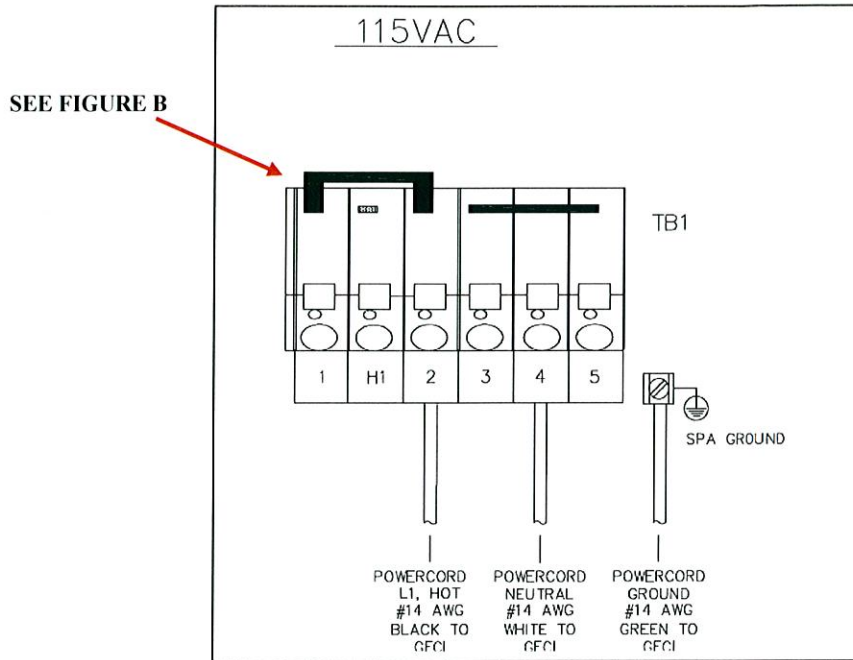

FIGURE 1.1
1. Locate the wiring diagrams provided with these instructions and select the one that corresponds to your spa model. **NOTE: For Domestic 60Hz models refer to figures 1.1 thru 2.1. For Export 50Hz models refer to figures 3.1 and 3.2.**